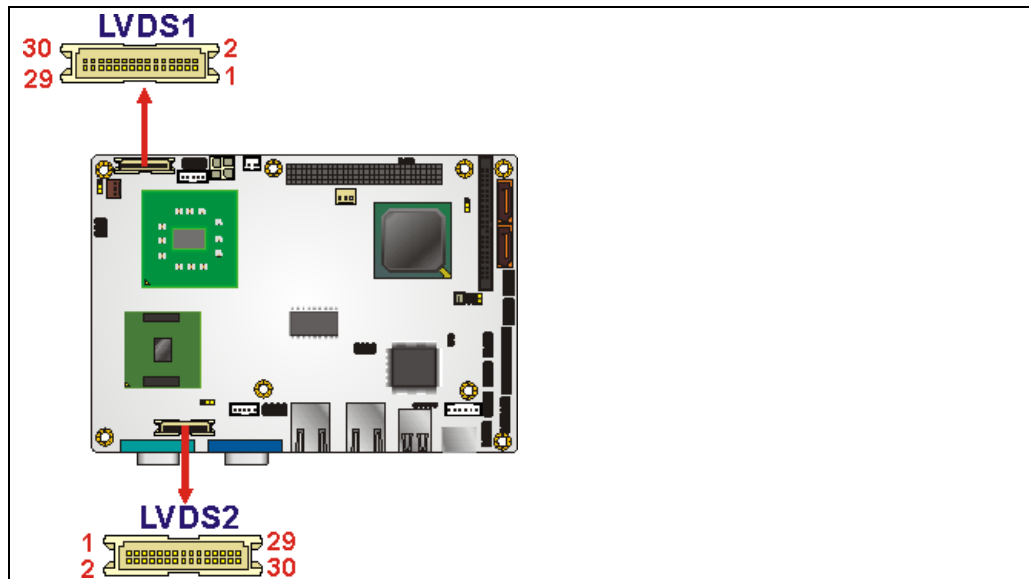

Figure 4-15: LVDS LCD Connector Pinout Locations
- CN Location:** See **Figure 4-15**